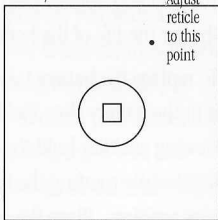

Figure 12.
1. Place a 2 to 3 feet target 50 yards away. Draw or place a 1 inch square at the center. Using a bench rest, fire one shot at the center of the bullseye, then return the gun to the exact position and adjust the reticle to the bullet's point of impact. At this point, fire one more shot at the bullseye. This shot should be within 1 inch of your target center. Make final adjustments as necessary with the next shot (see Figure 12).